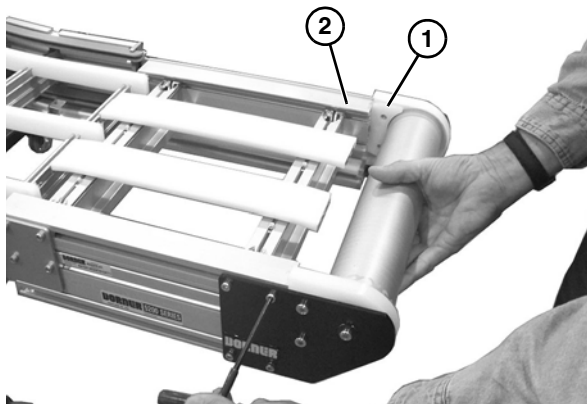

Figure 38
When reinstalling the idler spindle tail assembly, the idler terminal assembly (**Figure 38, item 1**) should be flush with the conveyor frame (**Figure 38, item 2**).